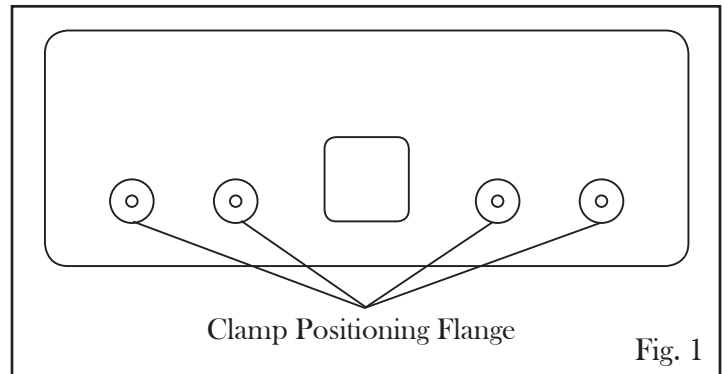

Fig. 1
2. There are four clamp positioning flanges on the bottom of the drill press table (Fig. 1). Adjust the position of the clamp assemblies to fit the size of your drill press' table.